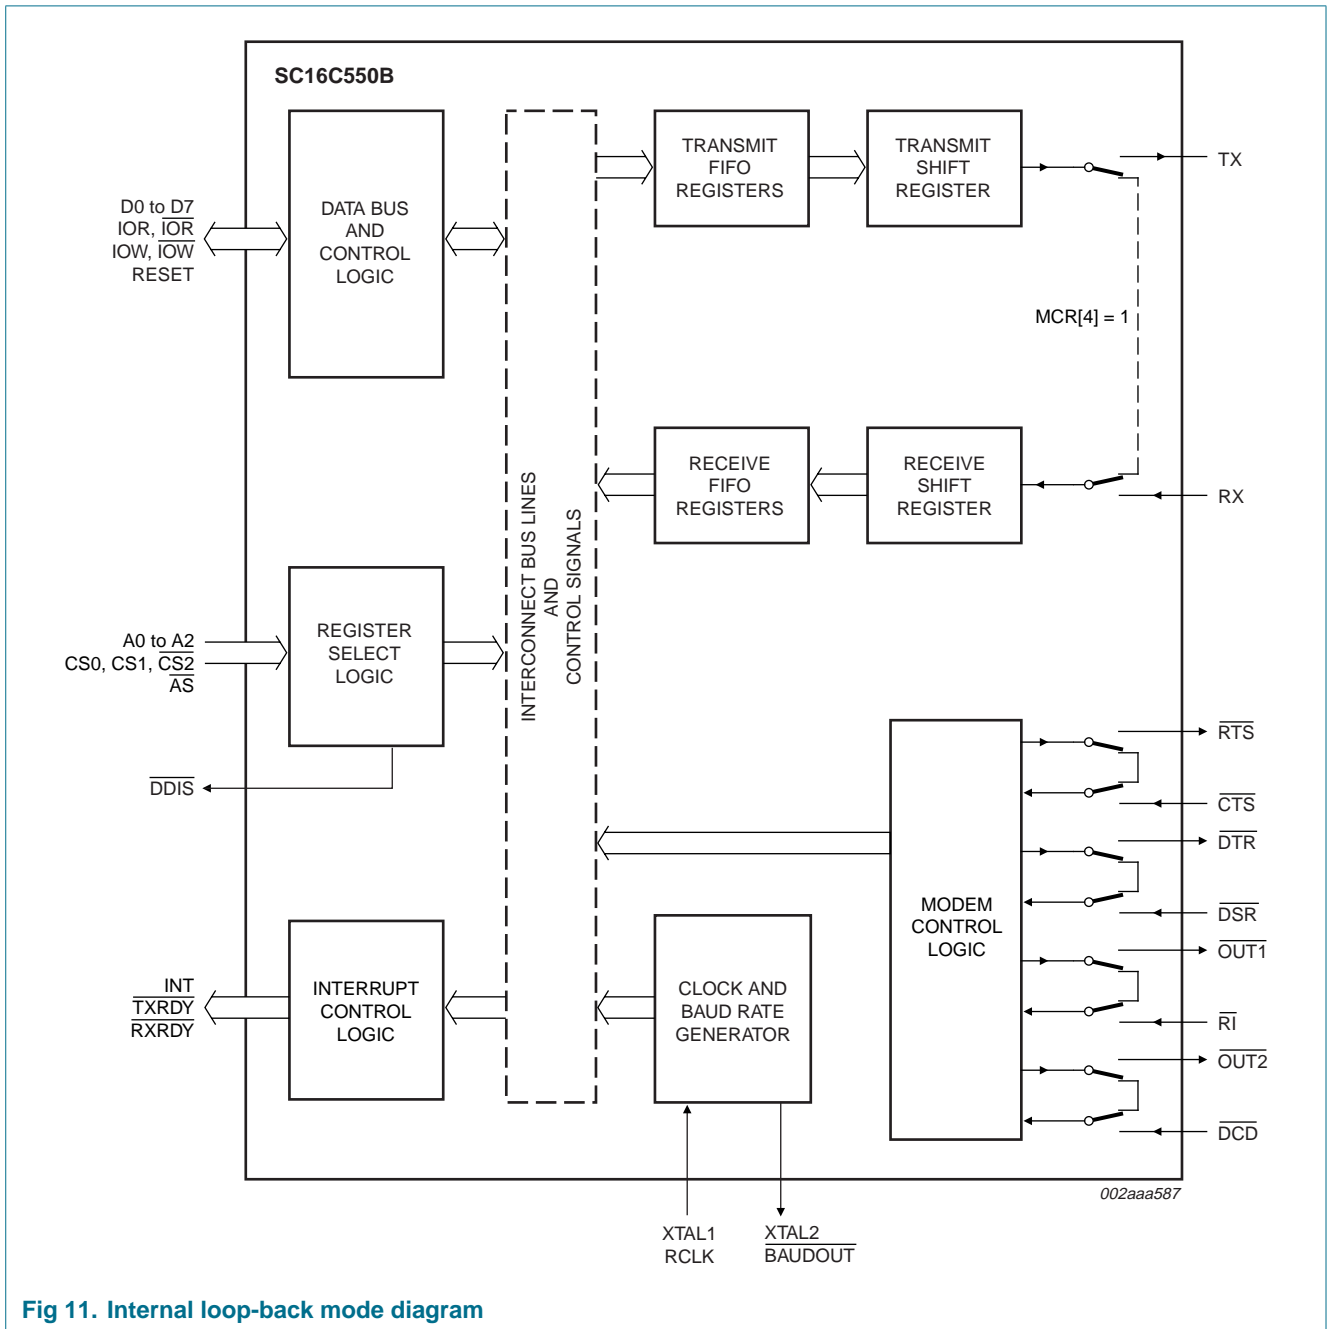

Fig 11. Internal loop-back mode diagram
The internal loop-back capability allows on-board diagnostics. In the loop-back mode, the normal modem interface pins are disconnected and reconfigured for loop-back internally. MCR[0:3] register bits are used for controlling loop-back diagnostic testing. In the loop-back mode, OUT1 and OUT2 in the MCR register (bits 3:2) control the modem \overline{RI} and \overline{DCD} inputs, respectively. MCR signals \overline{DTR} and \overline{RTS} (bits 0:1) are used to control the modem \overline{CTS} and \overline{DSR} inputs, respectively. The transmitter output (TX) and the receiver input (RX) are disconnected from their associated interface pins, and instead are connected together internally (see Figure 11). The inputs \overline{CTS} , \overline{DSR} , \overline{DCD} , and \overline{RI} are disconnected from their normal modem control input pins, and instead are connected internally to \overline{DTR} , \overline{RTS} , $\overline{OUT1}$ and $\overline{OUT2}$. Loop-back test data is entered into the transmit holding register via the user data bus interface, D0 to D7. The transmit UART serializes the data and passes the serial data to the receive UART via the internal loop-back connection. The receive UART converts the serial data back into parallel data that is then made available at the user data interface D0 to D7. The user optionally compares the received data to the initial transmitted data for verifying error-free operation of the UART TX/RX circuits.